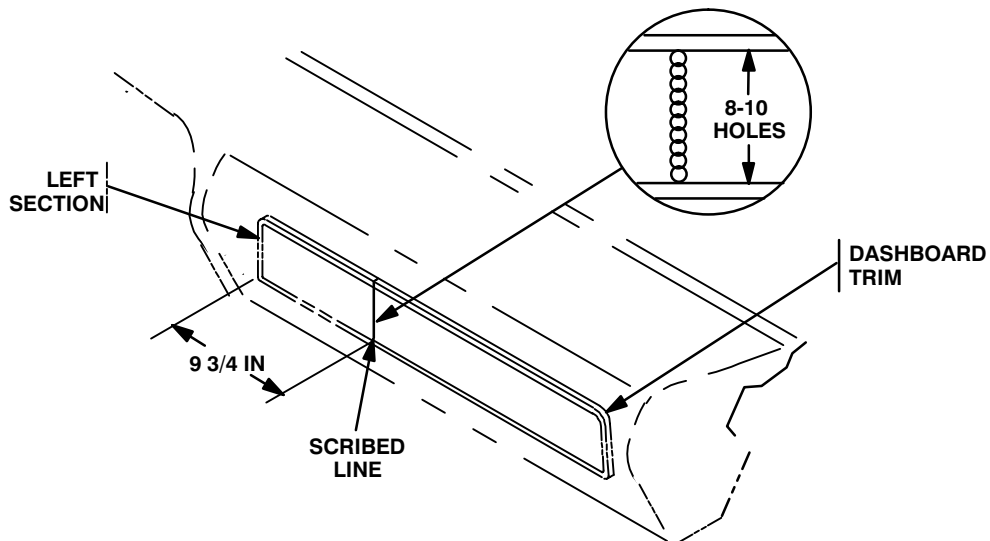

Figure 5-6 (1). Dashboard Modification: Removing Trim
a. Dashboard trim (trim).	Measure 9 3/4 in from left edge of trim; then scribe a line from top to bottom edge. See figure 5-6 (1).